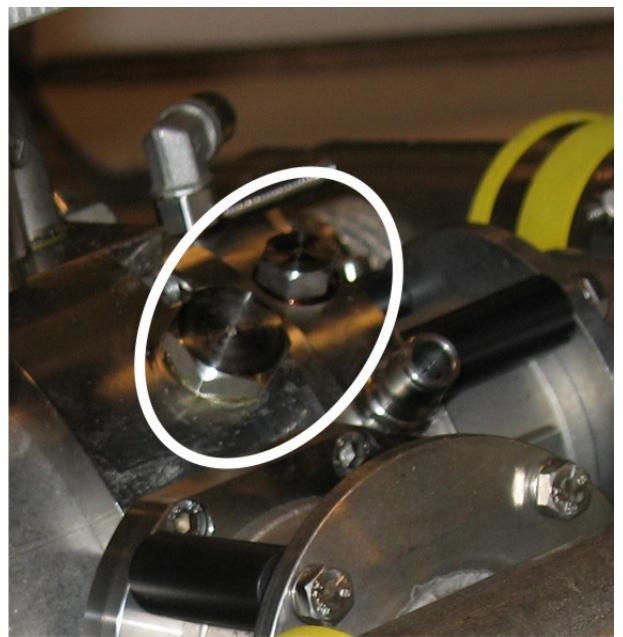

Fig. 9. Closing the connectors with plugs.
2. Remove connectors (Fig. 10B, parts 1 & 2) from the chamber, clean their threads and close the holes with plugs (Fig. 9). Use Loctite 542 glue to ensure that the plugs stay tight.